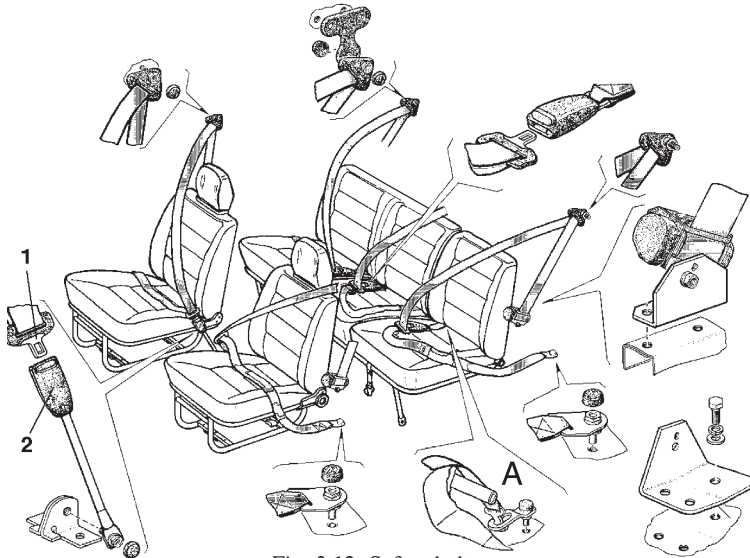

Fig. 3.12. Safety belts:
Your motor vehicle is equipped with safety belts (Fig. 3.12) for all seats. The front and the rear seatbelts are three-point with retraction mechanisms. To fasten the belt, pull belt buckle 1 and, without twisting of straps, insert it into lock 2 until a click is heard. To unfasten the belt, push the button on the lock.
Rear seatbelts are equipped with a quick-disconnect fastener, attached to the floor of the interior (see Fig. 3.12 "A"). When folding the seat, unfasten the belts — turn the belt locking buckle 90° and withdraw it from the bracket slot.
2. The heater tap shall be opened, Fig. 3.12 (the tap lever pos. 1 in extreme bottom position).